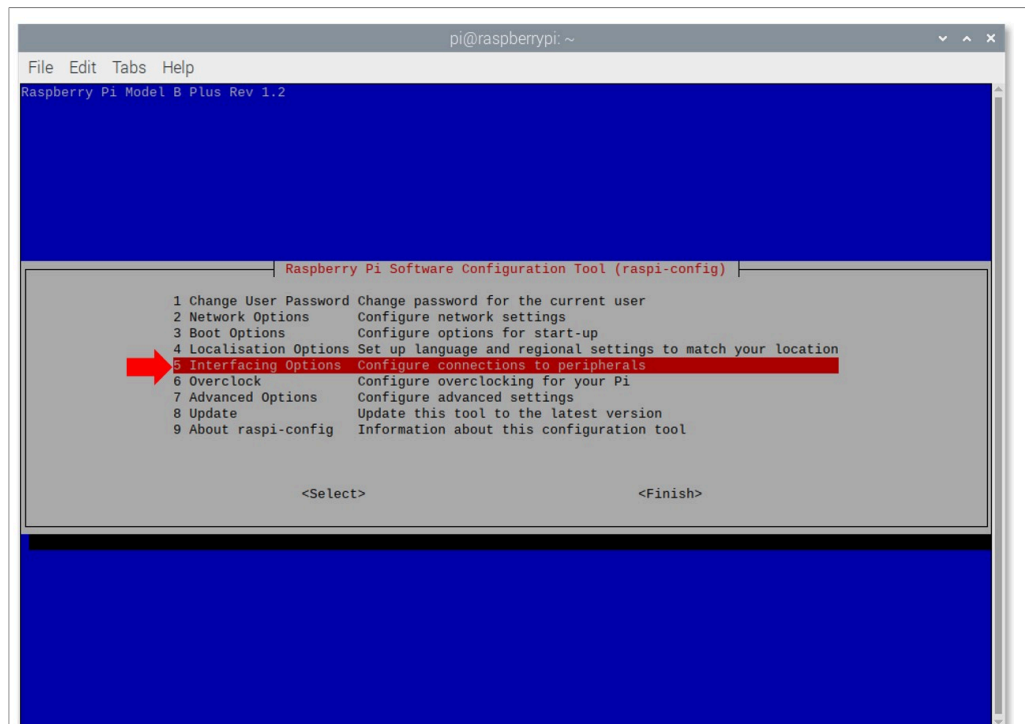

Figure 6. Enable I2C interface
3. Use the up and down arrow keys to select the 5th menu entry (Interfacing Options) and then press Enter, as shown in Figure 6: